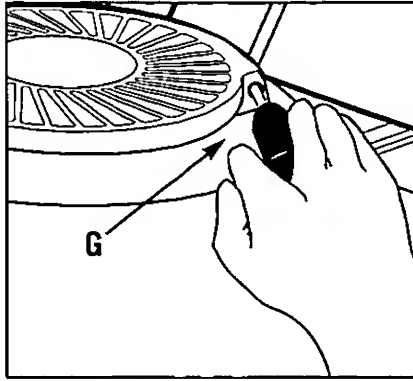

Figure 4-4: Engine recoil starter.
- B. Grasp rope handle (G, Figure 4-4) and pull slowly until rope pulls slightly harder. Let rope rewind slowly. Then pull rope with a rapid, full arm stroke. Let rope return slowly. If engine fails to start after three pulls, repeat instructions starting with Step 2 (try setting throttle at fast setting).